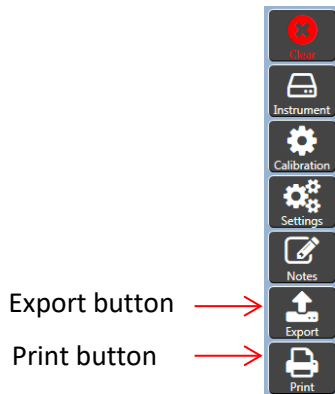

Figure 41: Results Options
13. The TESC software allows users to export or print the results using the sidebar controls. Exported data is sent in .csv format. On-screen graphic results can be printed to available connected printers or to pdf. Refer to Figure 41.